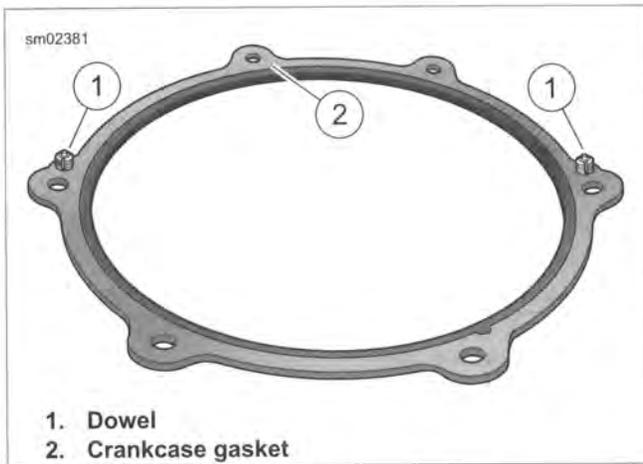

Figure 5-25. Crankcase Gasket
See Figure 5-25. Dowels (1) in crankcase gasket (2) must engage holes in crankcase.